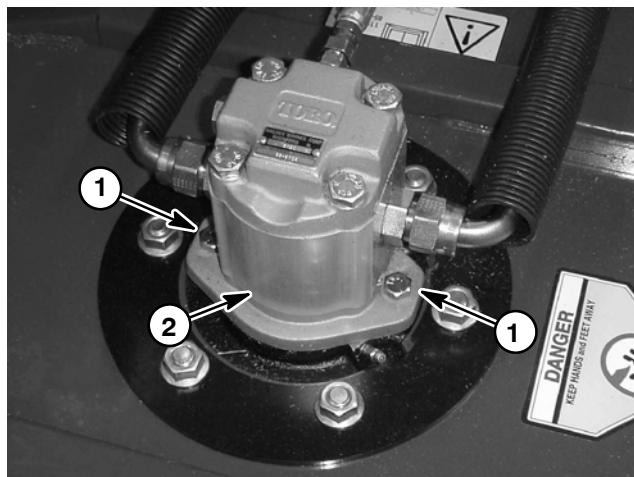

Figure 26
2. Remove two cap screws that secure hydraulic motor to the cutting unit (Fig. 26). Remove hydraulic motor and O-ring from deck.